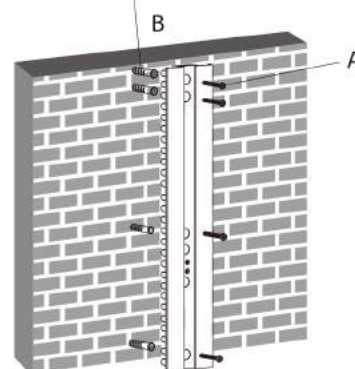

Fig.1.2
- Pre-drill these holes with a 8mm masonry bit and depth is at least 50mm. Insert a Concrete Anchor(B) into each of these holes. Attach the wall plate to the wall using four screws(A), make sure that the wall plate is level as shown in fig.1.2.